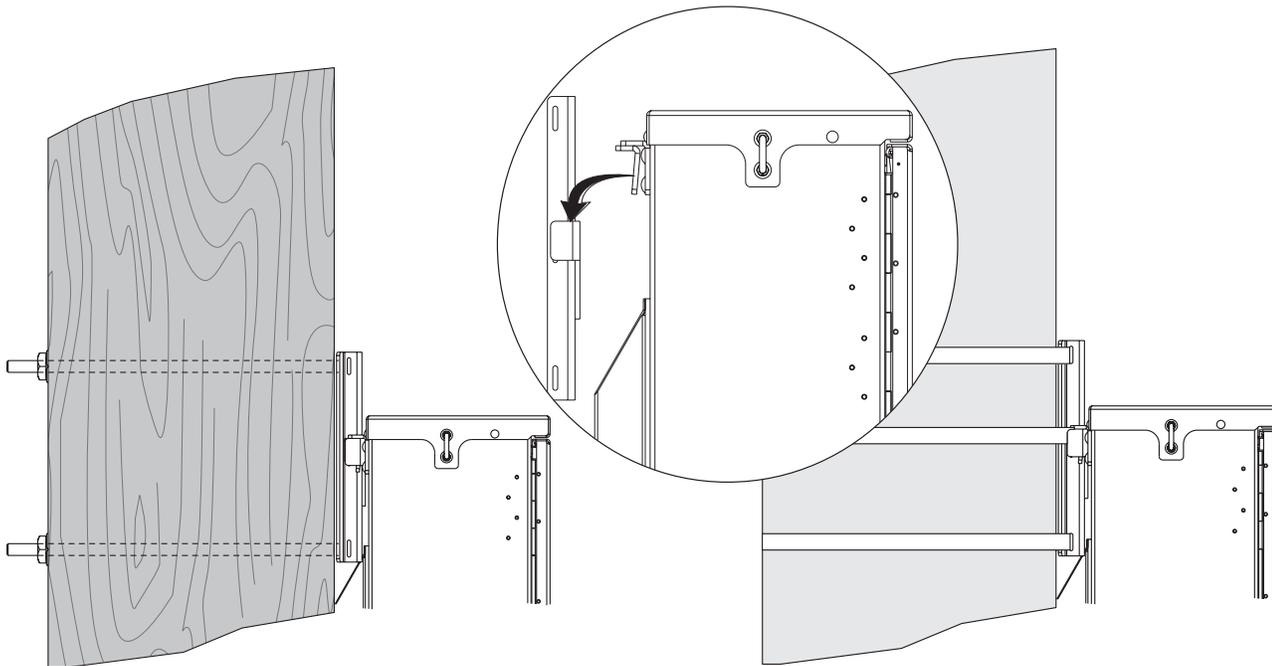

Figure 8 — Hang Cabinet on the Pole
Step 2 Use a crane or lifting device to lift the cabinet into position next to the pole. Hang the cabinet on the bracket (Figure 8).